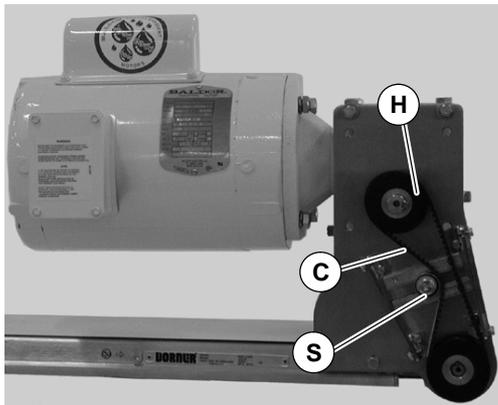

Figure 22
2. Loosen tensioner (S of Figure 22).
NOTE: If drive pulley (H of Figure 22) is replaced, wrap timing belt around drive pulley and complete step 3.